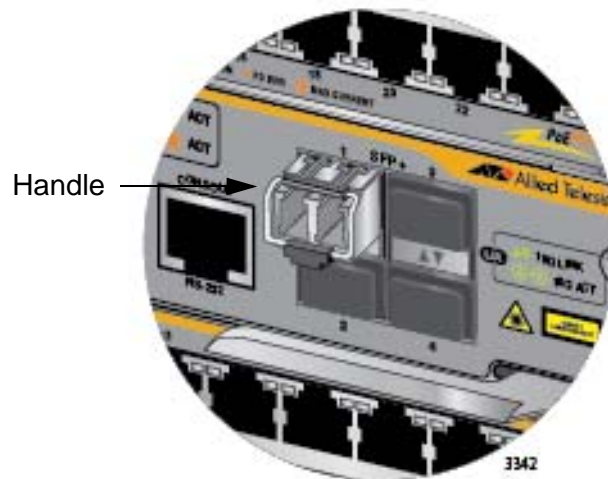

Figure 119. Positioning the Handle on the Transceiver
5. Verify the position of the handle on the transceiver. If the transceiver is in slot 1 or 3, the handle should be in the upright position, as shown in Figure 119. If the transceiver is in slot 2 or 4, the handle should be in the down position.